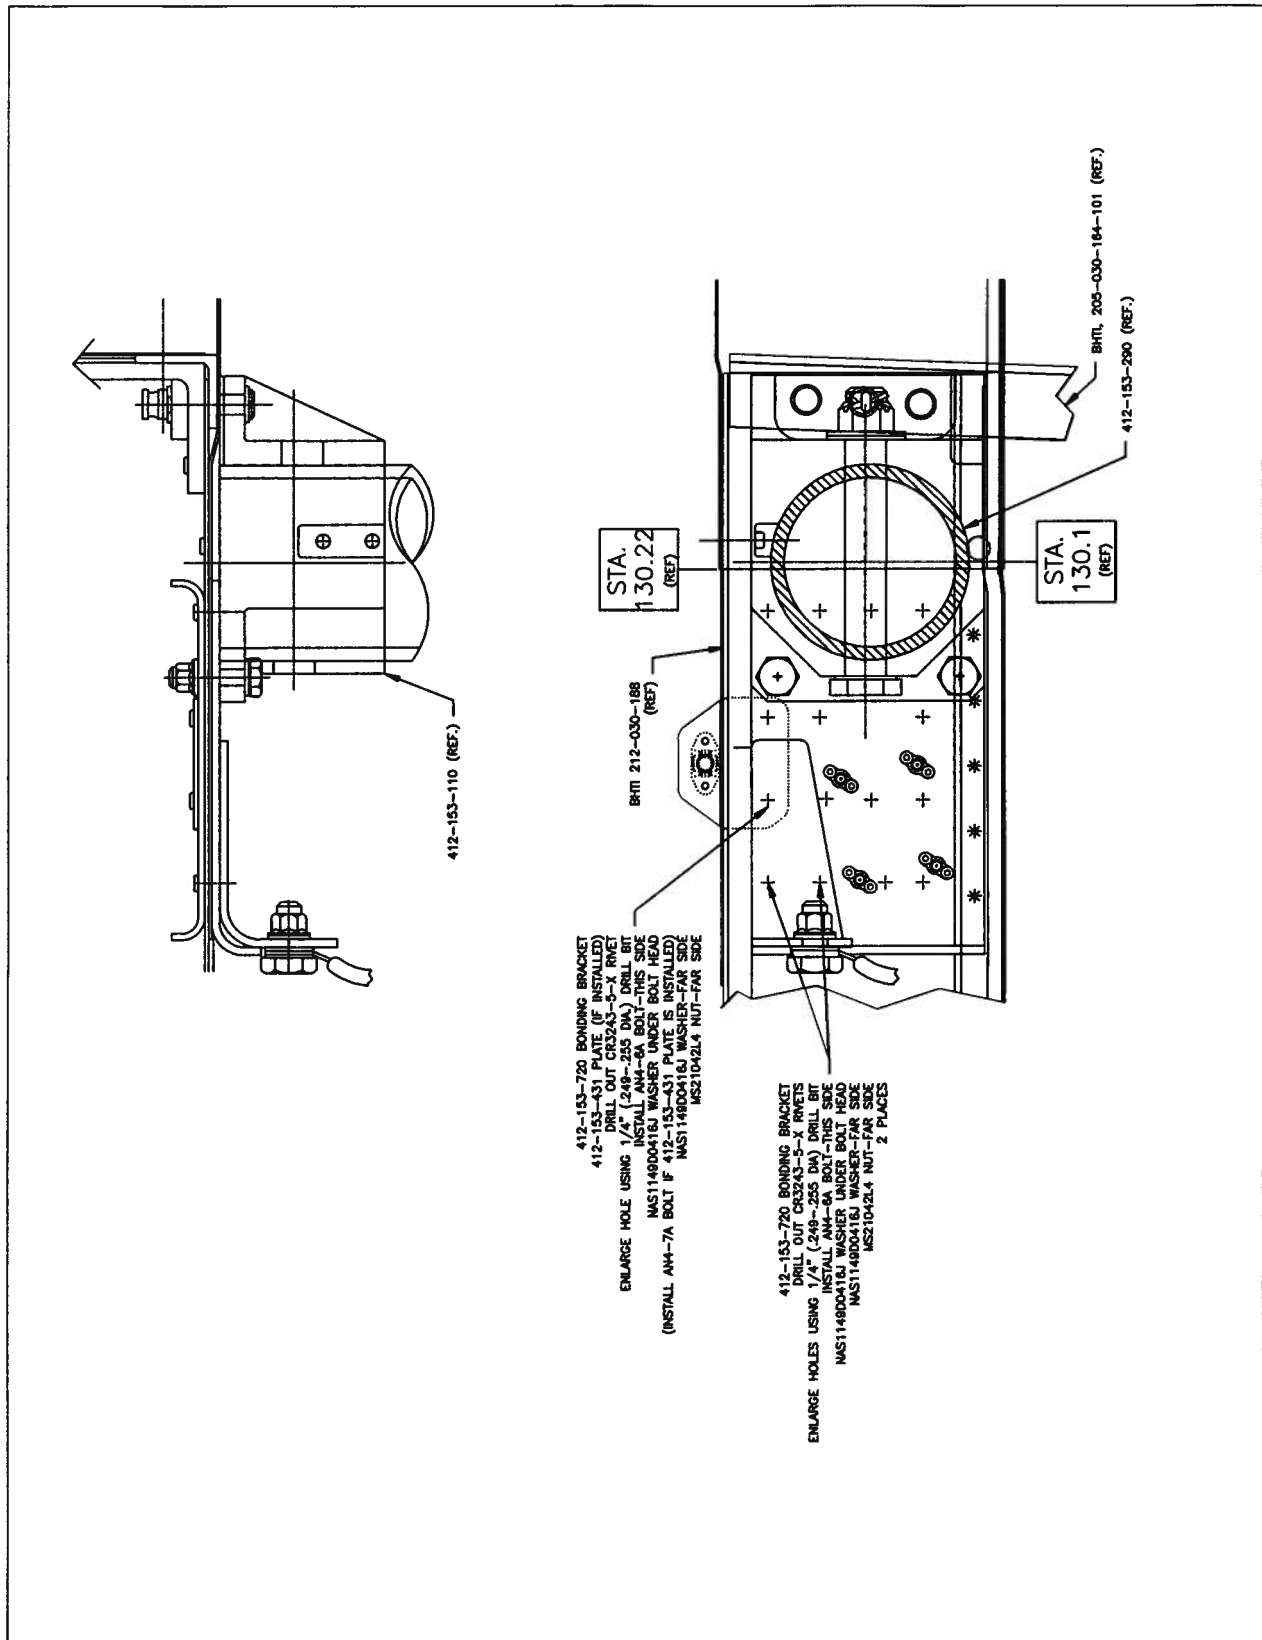

Figure 1
1. Locate Bonding Bracket (412-153-720) as shown in Figure 1.
3. Drill out the three rivets attaching the Bonding Bracket to the airframe (Ref. Figure 1).
8. Install Bolts, Washers and Nuts as shown in Figure 1.